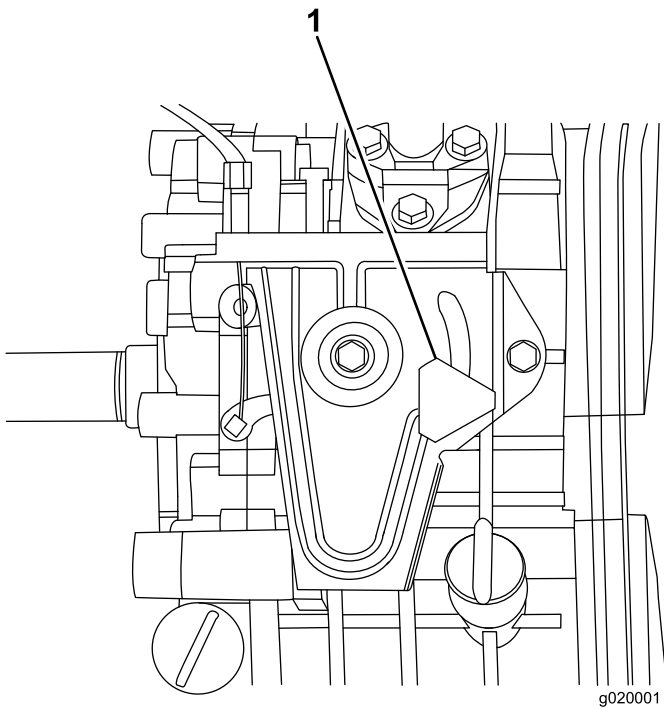

Figure 26
3. Ensure that the engine speed control knob on the engine is loose by rotating it counterclockwise (Figure 26).